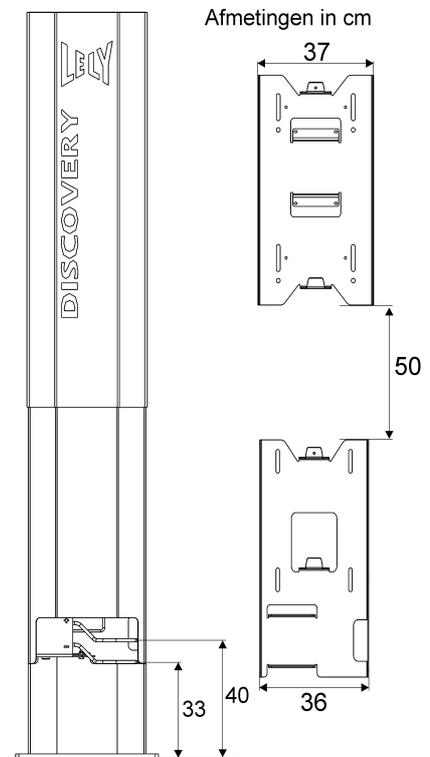

Figure 2 3 Installation dimensions
- *For the correct placement within the cowshed, see details as described in figure 2 2.*